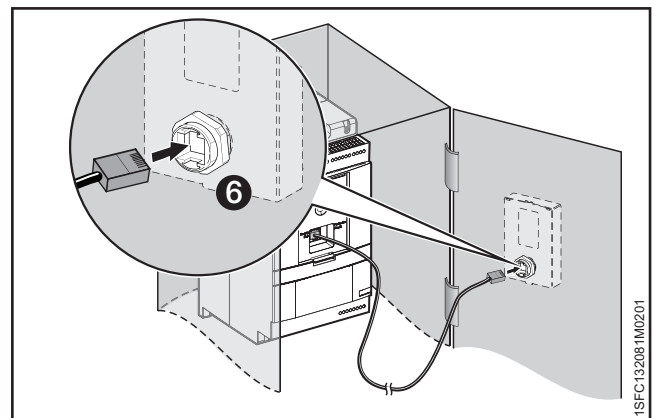

Figure 4.11
4. Connect the other end of the network cable to the network port on the back of the movable HMI, see **6** in **Figure 4.11**.